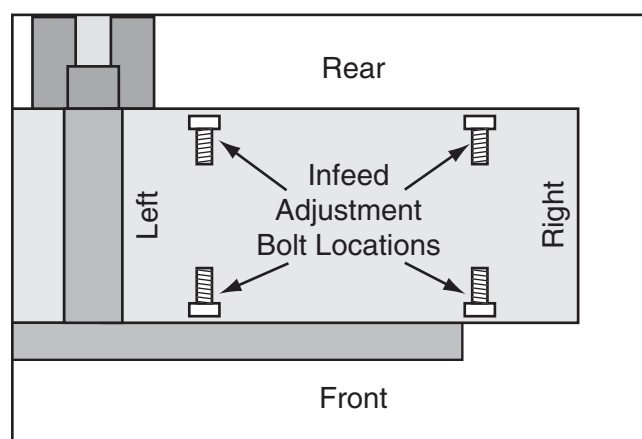

Figure 56. Locations of the infeed table adjustment bolts.
5. Use the same process you performed in **Step 5** on **Page 37** to raise or lower the left or right end of the infeed table to eliminate the gaps. Adjust the adjustment bolts equally on each side for the targeted end of the table, one after the other, in very small increments (see **Figure 56**).